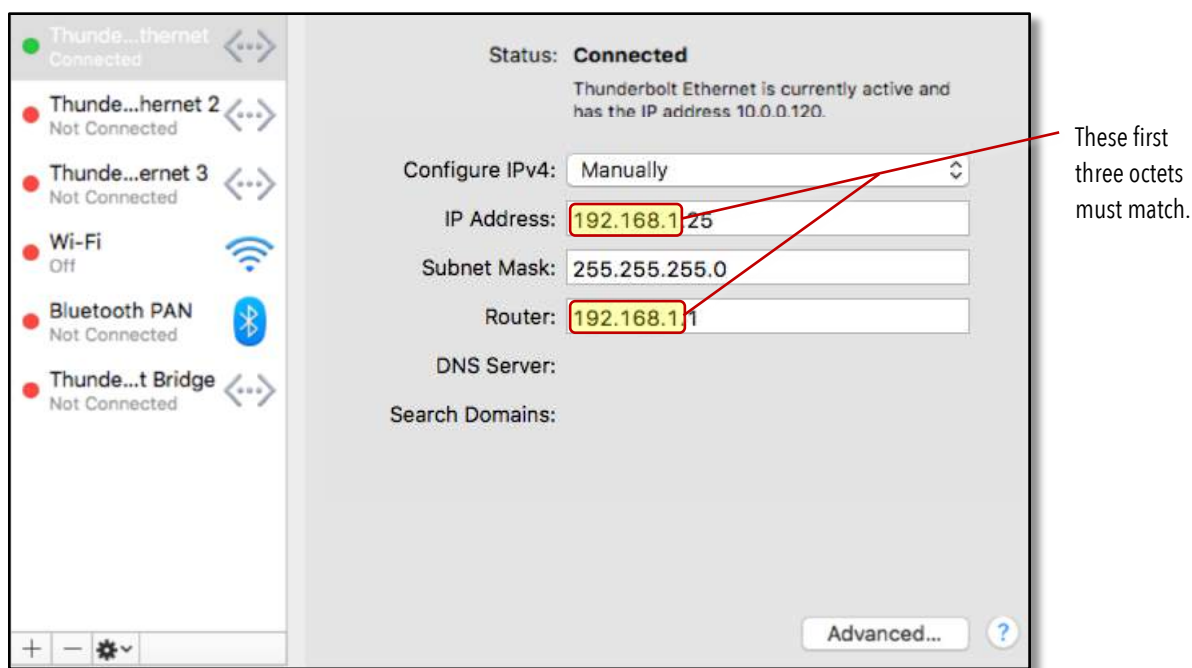

Figure 24. Creating a Network on Non-Ubuntu Machine
- Access the computer's network settings window, such as shown in Figure 24. Create a static net mask (such as 192.168.1.0/255.255.255.0) where the IP address (e.g., 192.168.1.25) is on the same network as the gateway (such as 192.168.1.1).